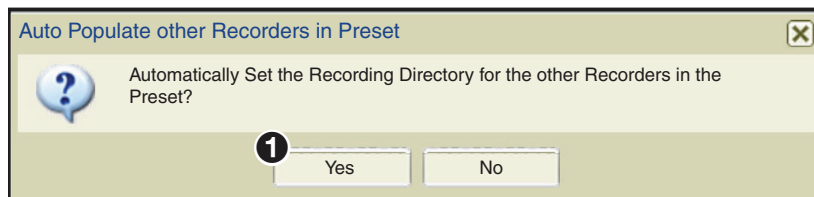

Figure 93. Recording Browser, Auto Populate Other Recorders
8. A dialog box opens. Select **Yes** (see figure 93, 1) to automatically create the same directory on other recorder devices in the preset, or **No** to continue.